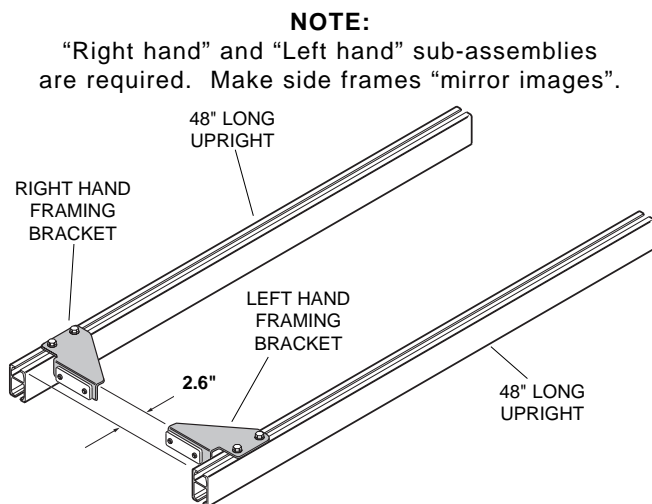

Figure 3.
3. Locate two 48" long uprights, right hand framing bracket and left hand framing bracket. Affix framing brackets to uprights 2.6" from end of aluminum rail (Fig. 3). Wrench tighten to secure.